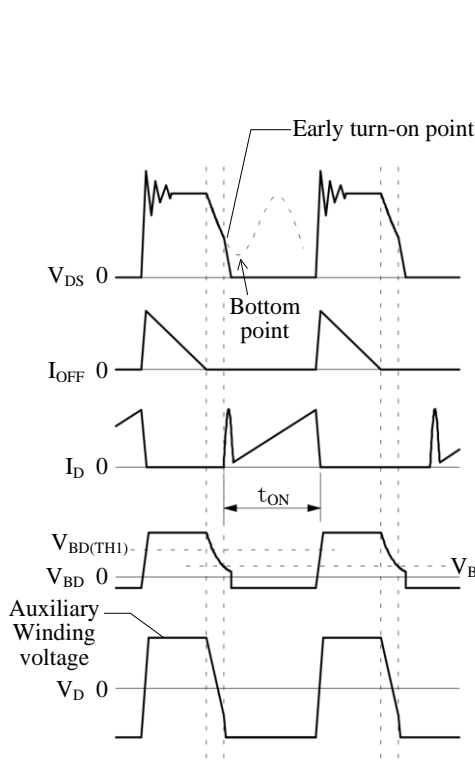

Figure 8-14. When the Turn-on of a  $V_{DS}$  Waveform Occurs before a Bottom Point
- If the turn-on point precedes the bottom of the  $V_{DS}$  signal (see Figure 8-14), it causes higher switching losses. In that situation, after confirming the initial turn-on point, delay the turn-on point by increasing the  $C_{BD}$  value gradually, so that the turn-on will match the bottom point of  $V_{DS}$ .